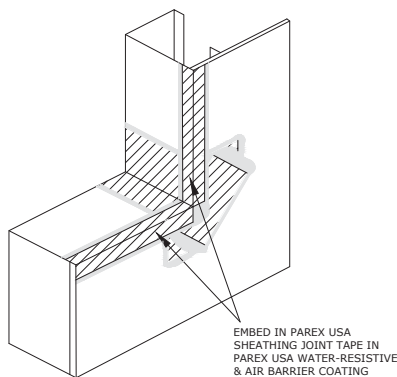

Fig. 10.4
- Fold the bottom flap down over the sheathing. Fold the end flaps against the sheathing (Fig 10.4).
- Repeat the third step for the jambs by coating the jambs with Weatherseal and installing a piece of sheathing joint tape to the jamb and wrapped at least 2 in. (51mm) onto the sheathing such that it laps the sill piece and continues up past the head opening at least 4 in. (102mm) (Fig 10.4).